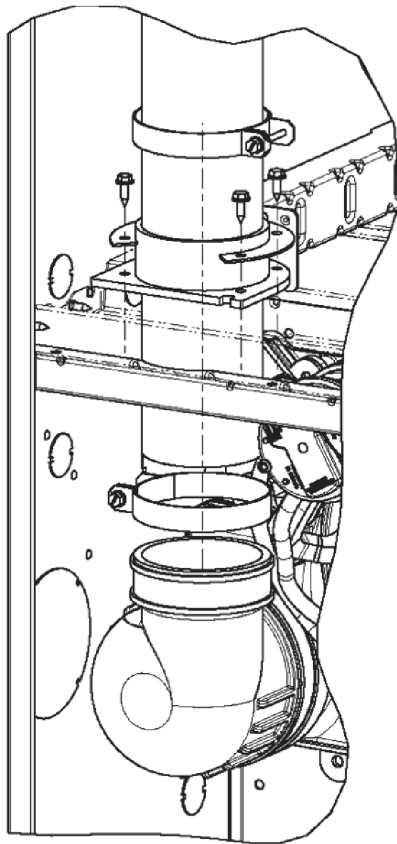

Fig. 3 - Detail of Pipe Support and Vent Elbow
6. Loosen clamp for the vent pipe at vent elbow on the inducer assembly. See Fig. 3.